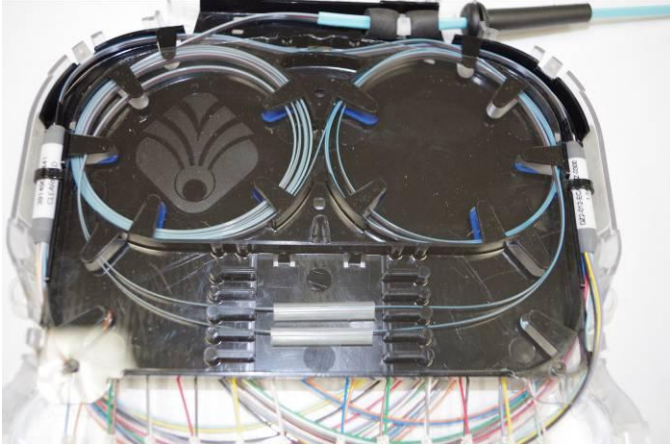

Figure 1
Step 1: Slide the splice tray cover under the tabs and snap down on to the tabs (**Figure 1**).